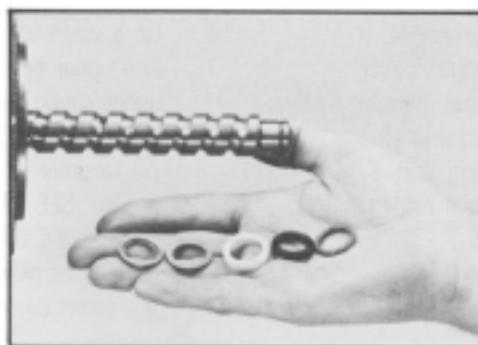

Figure 122
20. Assemble onto the rack end of worm shaft (23) steel washer (24), **new** seal (25), with sharp corner side toward steel washer, **new** seal cup (26) with counter bore toward seal, bronze back up washer (27) and retaining washer (28) with counter bore out. SEE FIGURE 122.